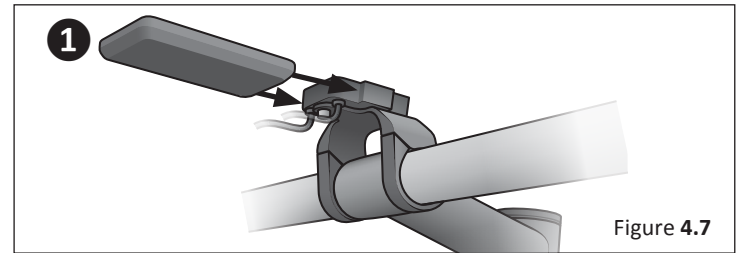

Figure 4.7
- 1 Slide the display into the display bracket until it snaps into place. **Figure 4.7**